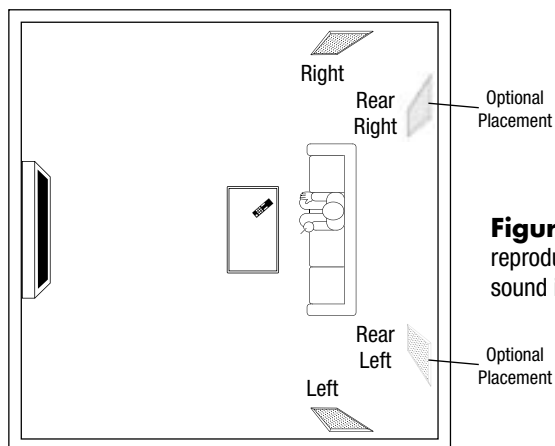

Figure 5. Two pairs of loudspeakers reproduce Dolby Surround EX® surround sound in a home theater room.
4. On each set of loudspeaker connectors, press down the spring-loaded connector, insert the appropriate conductor, and then release the connector, as shown in **Figure 5**. Gently tug on the loudspeaker wire to make sure it is held in place. If not, repeat this procedure until it is.